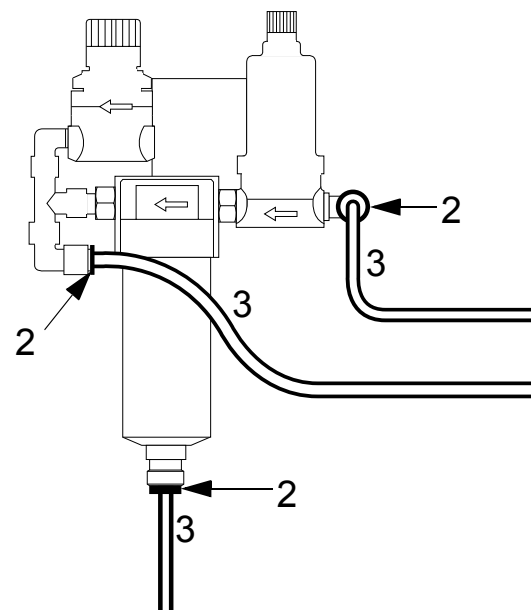

Fig. 7 Removing the filter assembly
- 4 Push ring (Fig. 7/2) back and hold.
- 5 Remove hoses (Fig. 7/3).